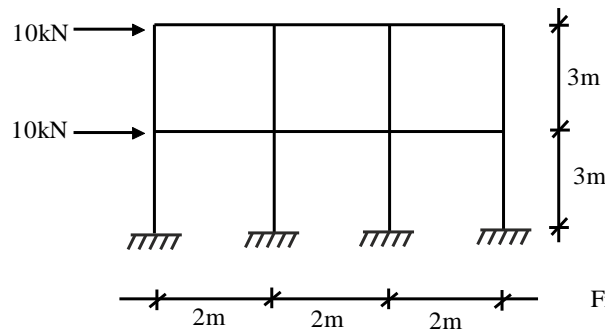

Fig. 8
10. Analyse the frame as shown in fig. 8 by cantilever method. Area of each exterior column is one half of the area of interior column. 13